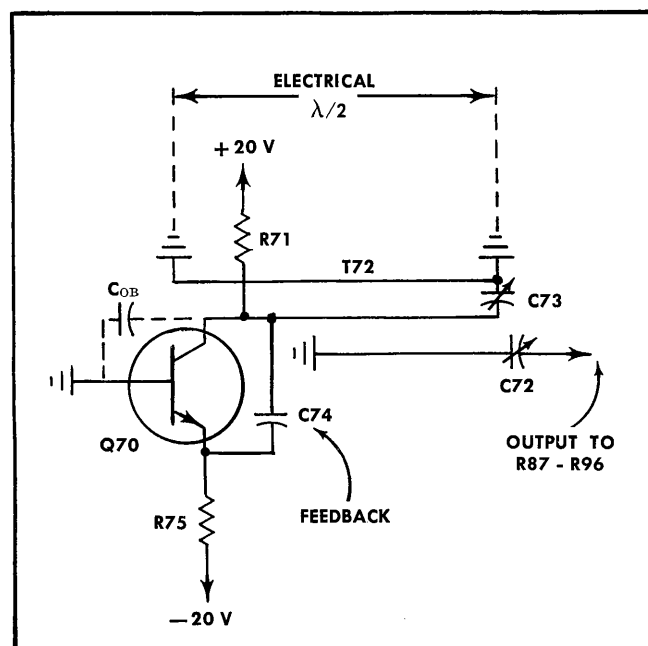

Fig. 3-2. 1 ns oscillator circuit.
**1 ns Oscillator.** Q70 and its associated components form a resonant transmission line oscillator. The frequency is determined by a half wave line, plated as part of the etched circuit board, whose electrical length is made adjustable by C73. Fig. 3-2 shows the oscillator redrawn slightly different from the main diagram, highlighting the half-wave resonant line and the feedback path.
Fig. 3-2 shows the transistor internal collector to base capacitance,  $C_{OB}$ .  $C_{OB}$  is also a signal path from collector to base, but it is a capacitance that would provide negative feedback if the base lead were not grounded. Thus the grounded base circuit cancels the negative feedback effects of  $C_{OB}$ , and the transistor oscillations are easily maintained by C74. (C74 is part of the etched circuit board, and is not replaceable as an individual component.)